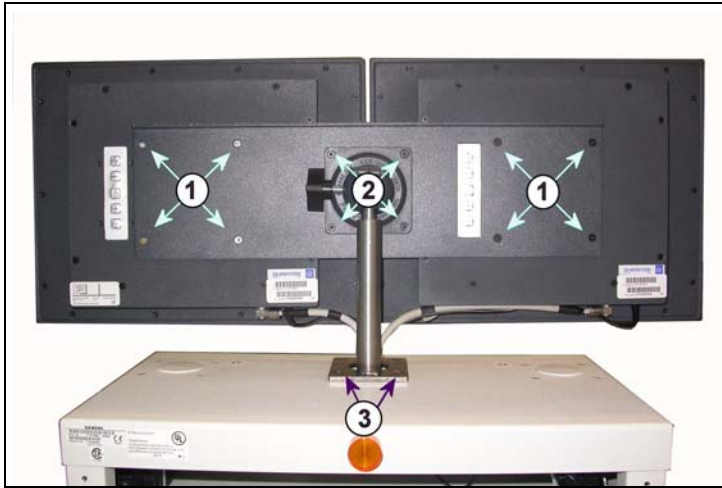

Fig. 1
- Loosen the display(s) from its(their) holders (4 screws each, see 1 / Fig. 1).
- Unscrew the holder from the monitor cart (3 / Fig. 1).
- If 2 TFT displays are present, install the extension plate on the holder and fix it in the position, shown in Fig. 1 with the 4 screws 2 / Fig. 1.
- Install the display(s) on the holder (1 / Fig. 1).